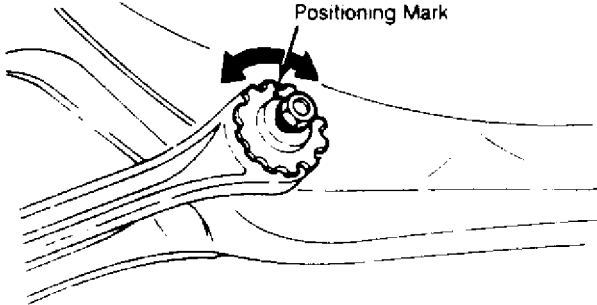

Fig. 2: GLC & 626 Star Wheel Adjustment
2) Turn spacer (star wheel) to make the points from rear of tire to center of crossmember equal. See Fig. 2. Turn both right and left spacers the same amount to adjust toe-in.